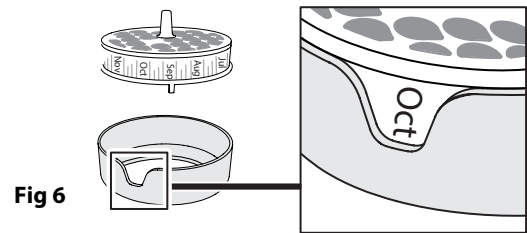

Fig 6
**After activated, insert the carbon cartridge in the filter housing with the current month facing through the window** (eg. If you are in october, face Oct month in the window) - See Fig. 6